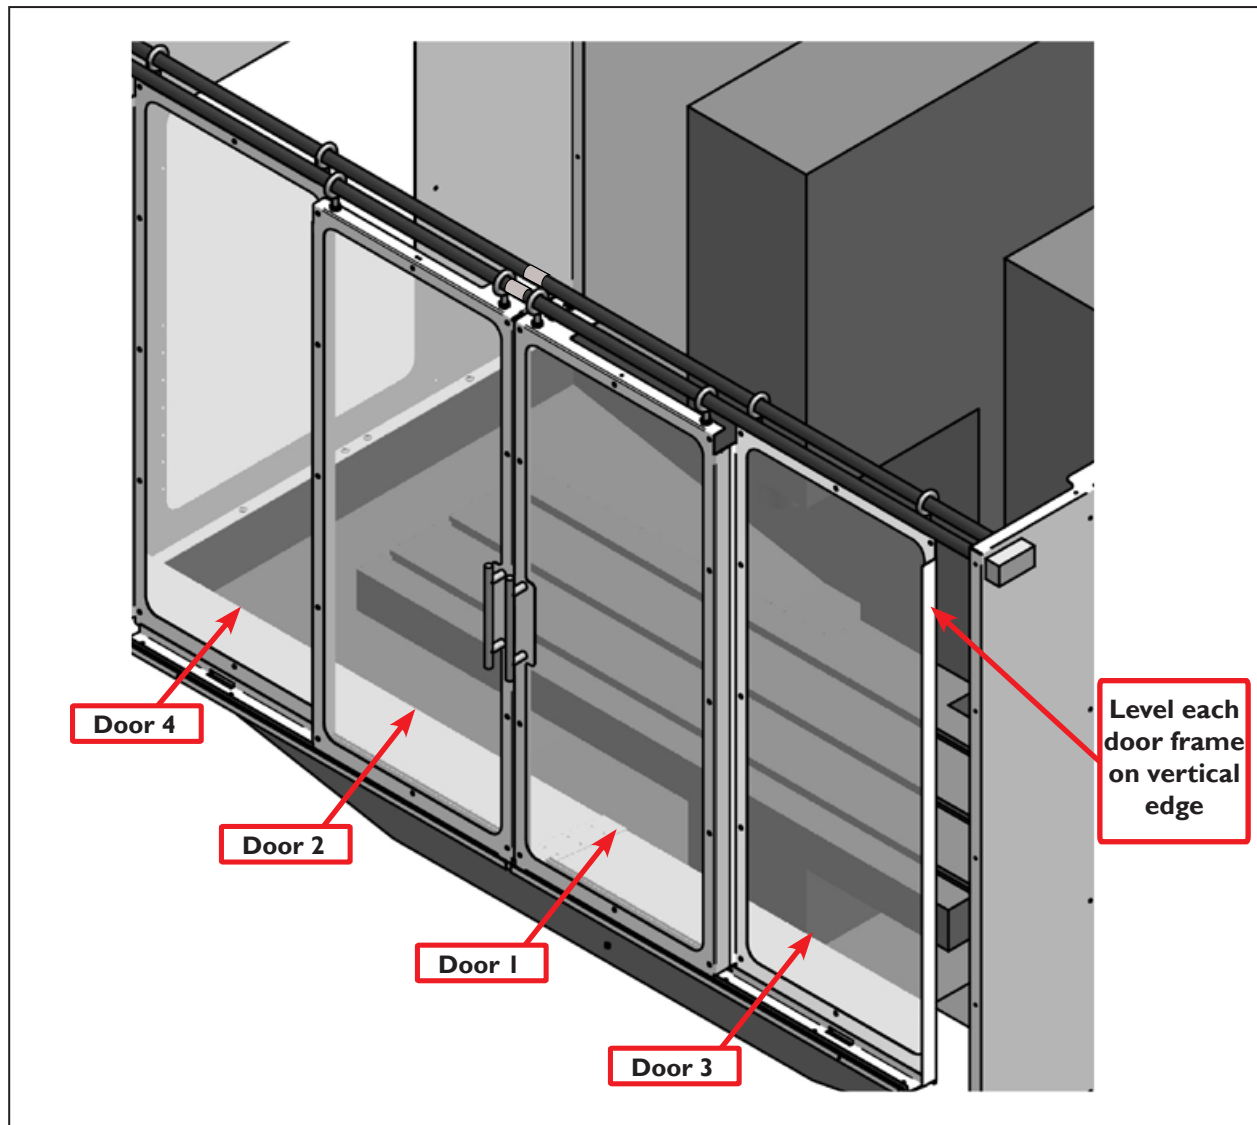

Figure 29
83. Adjust the height of Door 4 first by adjusting the eye bolt (B) nuts up and down until you have about 1/8" gap between the bottom of the door and the top of the door track (see **Figure 29**). When adjusting, make sure the door hangs level.